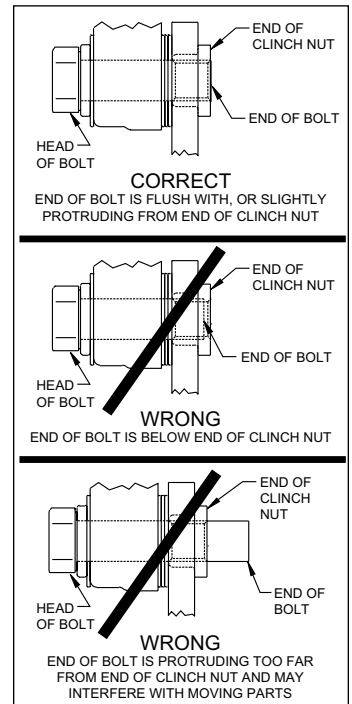

Figure 5. Clinch Nut Engagement Diagram
**CAUTION:** All mounting bolts must fully engage clinch nuts. Be sure to check that all bolts are either flush or protruding through flanged side of clinch nut after shimming, Figure 5.
- Temporarily tighten the caliper mounting bolts and view the rotor (4) through the top opening of the caliper. The rotor should be centered in the caliper, Photo 7. If not, adjust by adding or subtracting shims between the bracket and the caliper. Always use the same amount of shims on each of the two mounting bolts. **NOTE:** The end of each bolt must be flush with or slightly protruding from the head of the clinch nut, as shown in Figure 5. If necessary place spare shims between washer (6) and caliper mounting ear to achieve the proper clinch nut engagement. Once the caliper alignment and clinch nut engagement are correct, remove the bolts one at a time, apply red *Loctite*® 271 to bolt threads, and torque to 40 ft-lb.